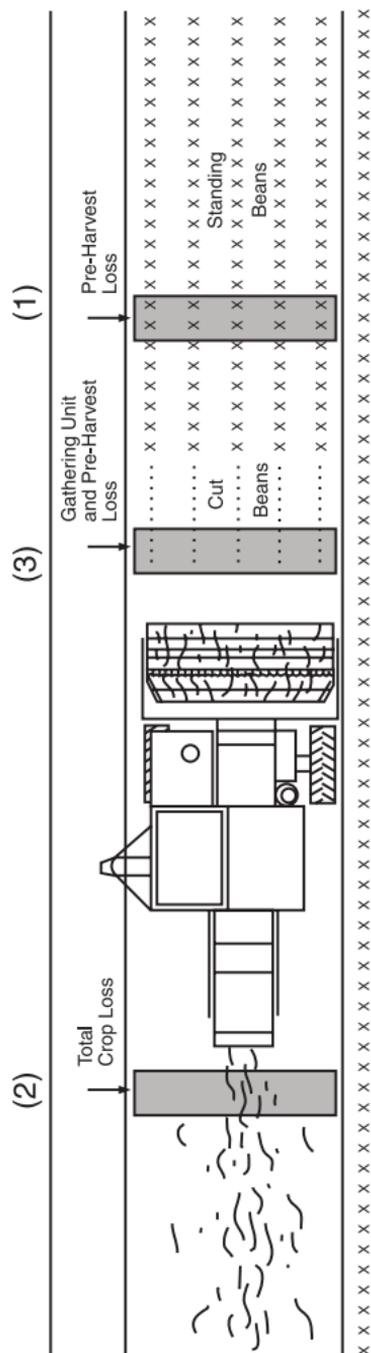

Figure 9. Location of areas to make seed loss counts.
Refer to Figure 9 (page 141) and record your seed counts in the “Loss” table (see below).
- 2) Using the 1-foot-square frame, count all beans in the frame as the frame is moved across the width of the cutter bar. Refer to Figure 9.
This is location 1 in Figure 9.
This is location 2 in Figure 9.